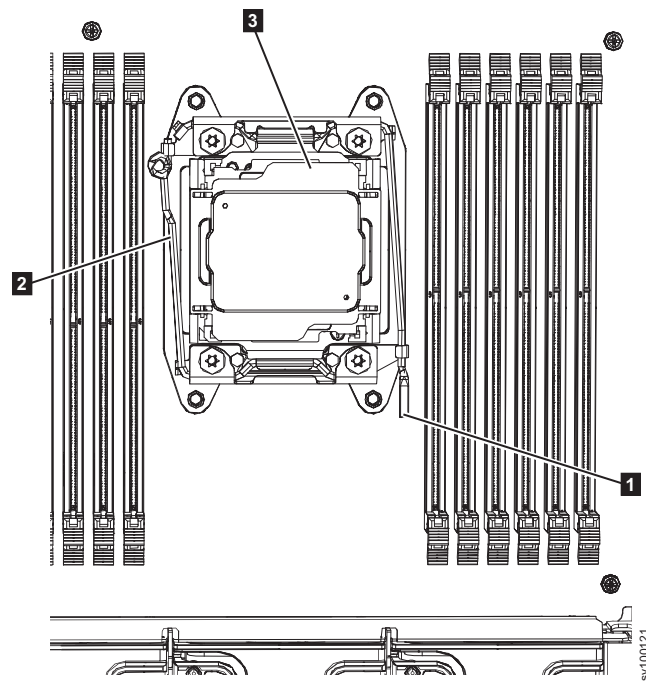

Figure 291. Opening the release levers
4. Open the microprocessor socket release levers and retainer, as shown in Figure 291.